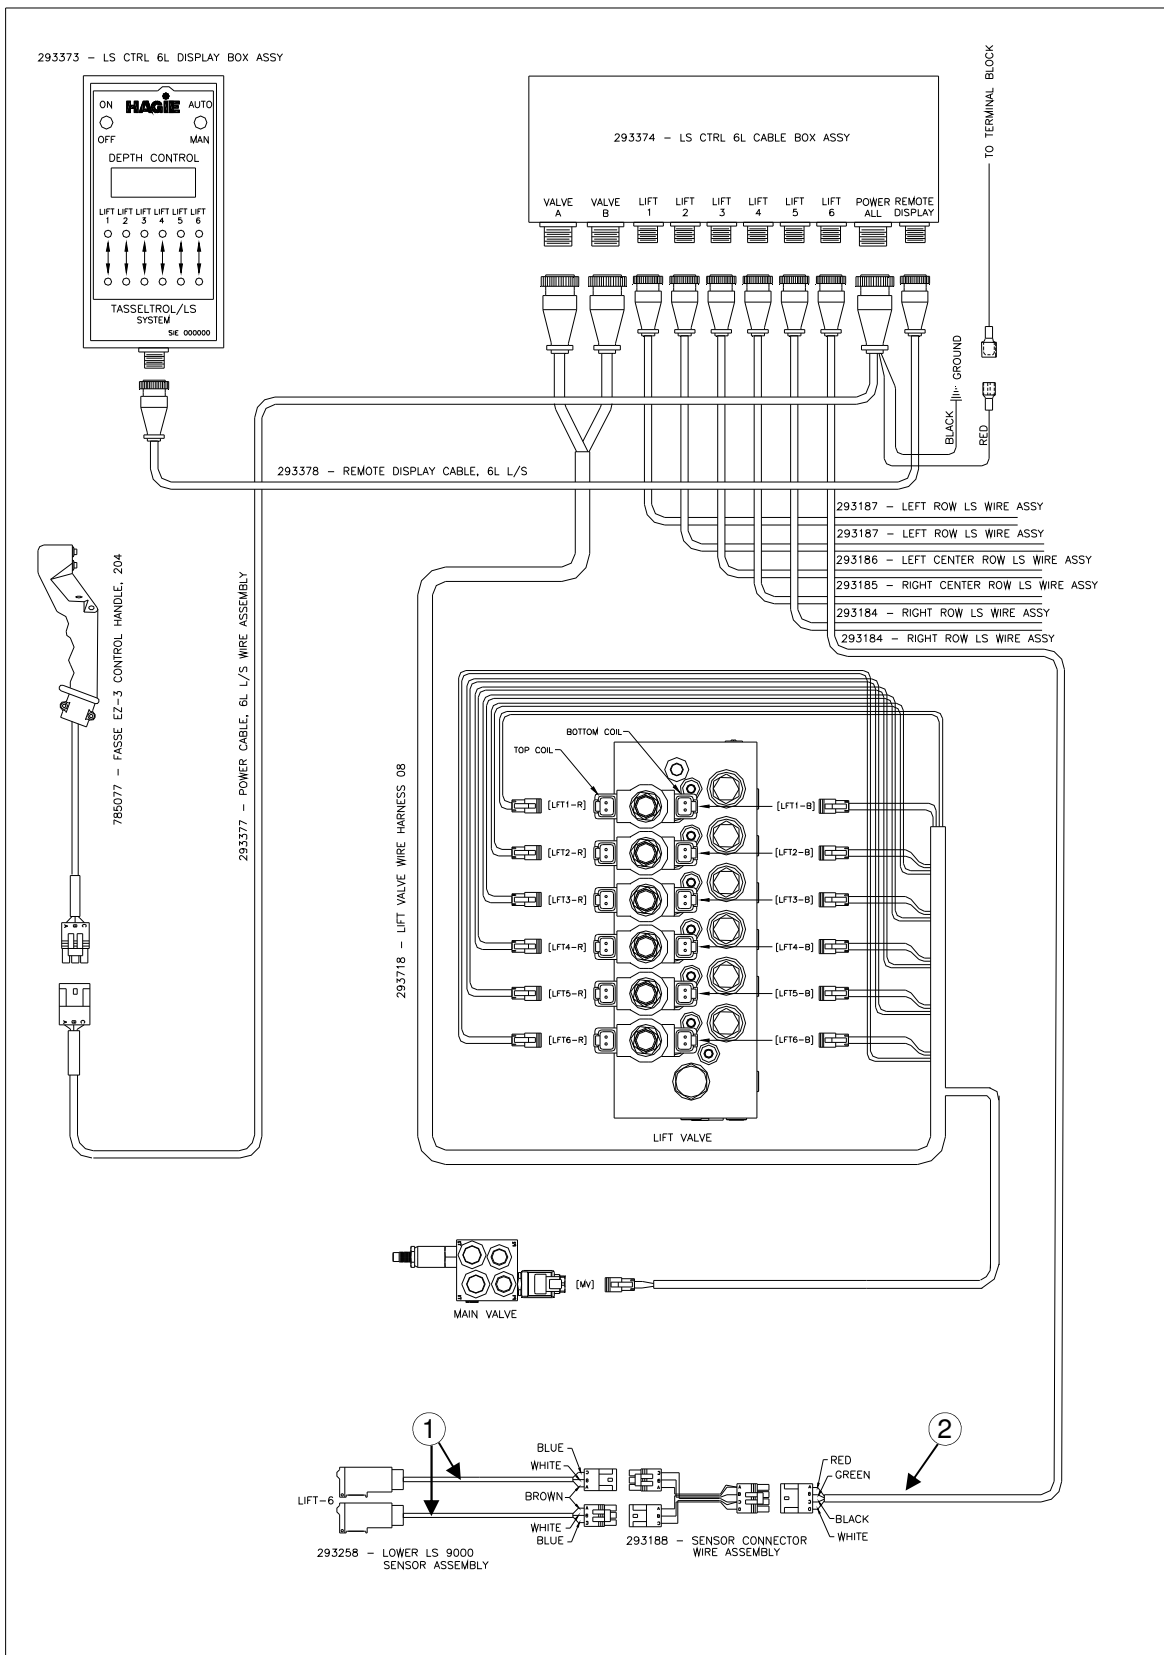

FIG 151.1
No lights at either photo sensor	Faulty connector cable (See page 151, fig. 151-1, item 2) Faulty RED and/or BLACK wire in connector cable (See page 151, fig. 151-1, item 1)
Lights at lower photo sensor	<p>Faulty GREEN wire in connector cable (See page 151 fig. 151-1, item 2)</p> <p>Photo sensor not in line with reflector , call Hagie Manufacturing Customer Support.</p> <p>Faulty BLUE wire in sensor assembly (See page 151, fig. 151-1, item 1)</p>
No lights at lower photo sensor	<p>Faulty RED and/or BLACK wire in connector cable (See page 151, fig. 151-1, item 2)</p>
Lights at upper photo sensor	Faulty WHITE wire in sensor assembly (See page 151, fig. 151-1, item 1)  Faulty BLUE wire in sensor assembly (See page 151, fig. 151-1, item 1)
No lights at upper photo sensor	Faulty RED and/or BLACK wire in connector cable (See page 151, fig. 151-1, item 2)